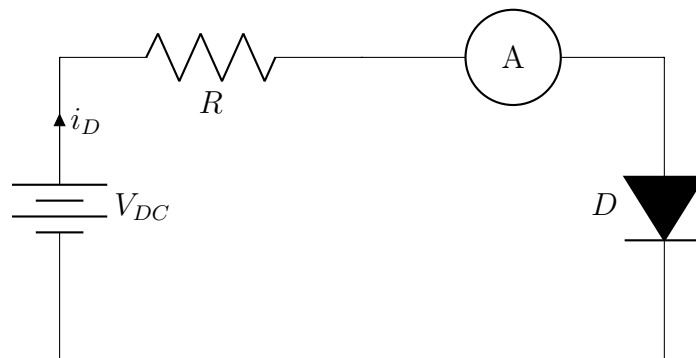

Figure 2: PN-Junction Diode Test Circuit
2. Build the circuit shown in Figure 2 using the E3631A Power Supply's +6 V source and the 34410A Digital Multimeter as an Ammeter with the diode connected in series. The maximum continuous current that the 1N4148 diode can conduct is 200 mA (see datasheet). An alternative way to protect the diode from excessive currents is to use a series resistor. Because the diode current depends exponentially on its bias voltage, if the power-supply voltage were inadvertently set to its highest voltage level (6 V for the 6 V supply used in this experiment), an excessive current could flow through the diode which would damage it permanently. The resistor prevents this condition from taking place.
1. Define all parameters and variables in Equation (2).
5. Comment on the values of  $I_S$  and  $\gamma$  that yield the best fit to the data. How do your experimental and varied values compare with those given in the diode manufacturer data sheets? (For  $R_s$  use Figure 2, curve 2, on the Vishay datasheet.  $I_S$  can be found under reverse current, and  $\gamma$  should be about 2.3.)